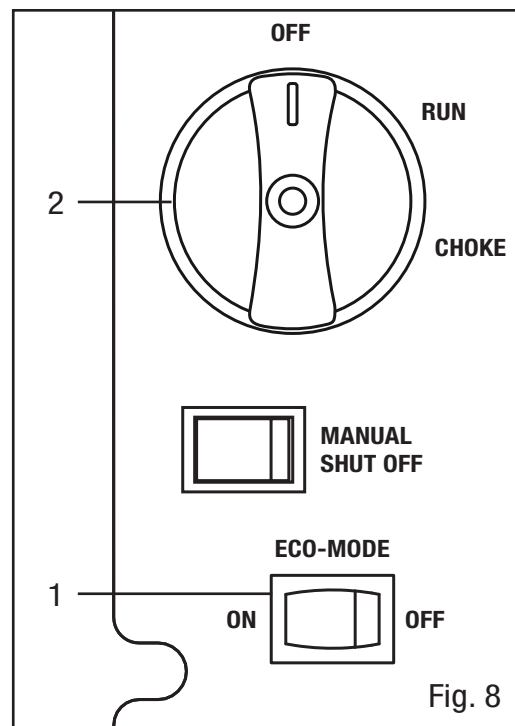

Fig. 8
1. Turn the ECO-MODE (Fig. 8 - 1) switch to “OFF” during starting.
3. Turn the 3-in-1 dial switch (Fig. 8 - 2) to the “CHOKE” position.
6. After the engine has started, turn the 3-in-1 switch (Fig. 8 - 2) to the “RUN” position. The output indicator (green) will light up.